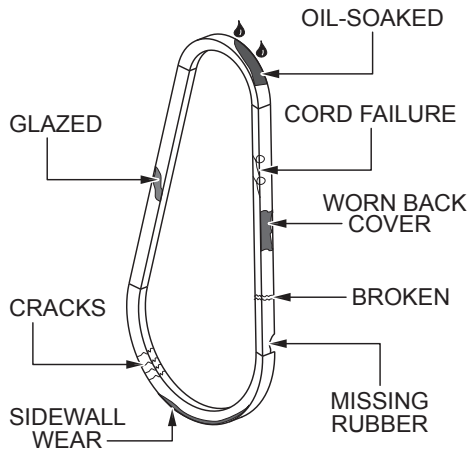

Figure 23. V-Belt Inspection
1. Inspect the V-belt (Figure 23) to determine if it is frayed, peeling, full of tiny cracks, has pieces of rubber missing, or is otherwise damaged.
2. Inspect the V-belt (Figure 23) to determine if it is oil-soaked or glazed (a hard, shiny appearance on the sides of the belt). Either of these conditions can cause overheating of the belt, which weakens the belt and increases the danger of it breaking.